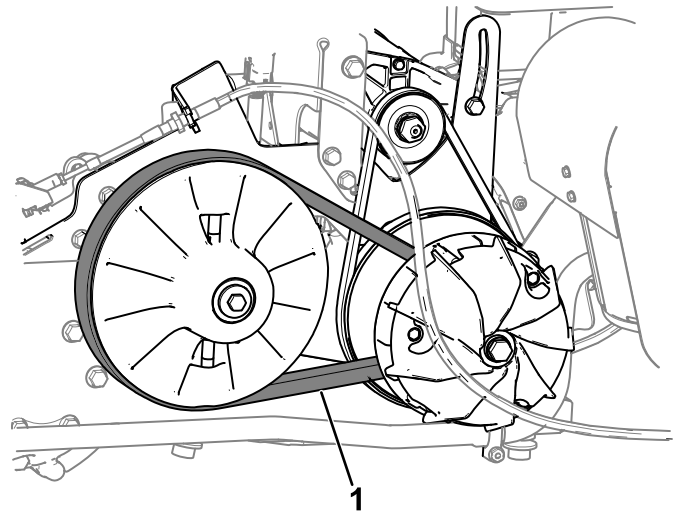

Figure 55
5. Rotate and inspect the belt (Figure 55) for signs of excessive wear or damage.